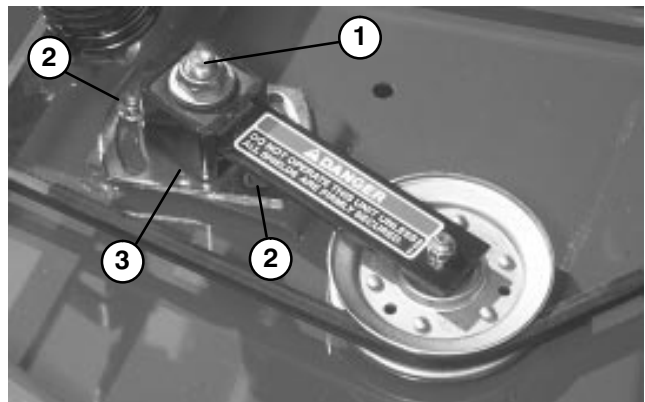

Figure 36
ADJUSTING IDLER PULLEY (Fig. 36)
3. Loosen two nuts securing idler plate in place. Using a socket and torque wrench, tighten the idler adjusting nut to 35–40 ft–lb. (Fig. 36).